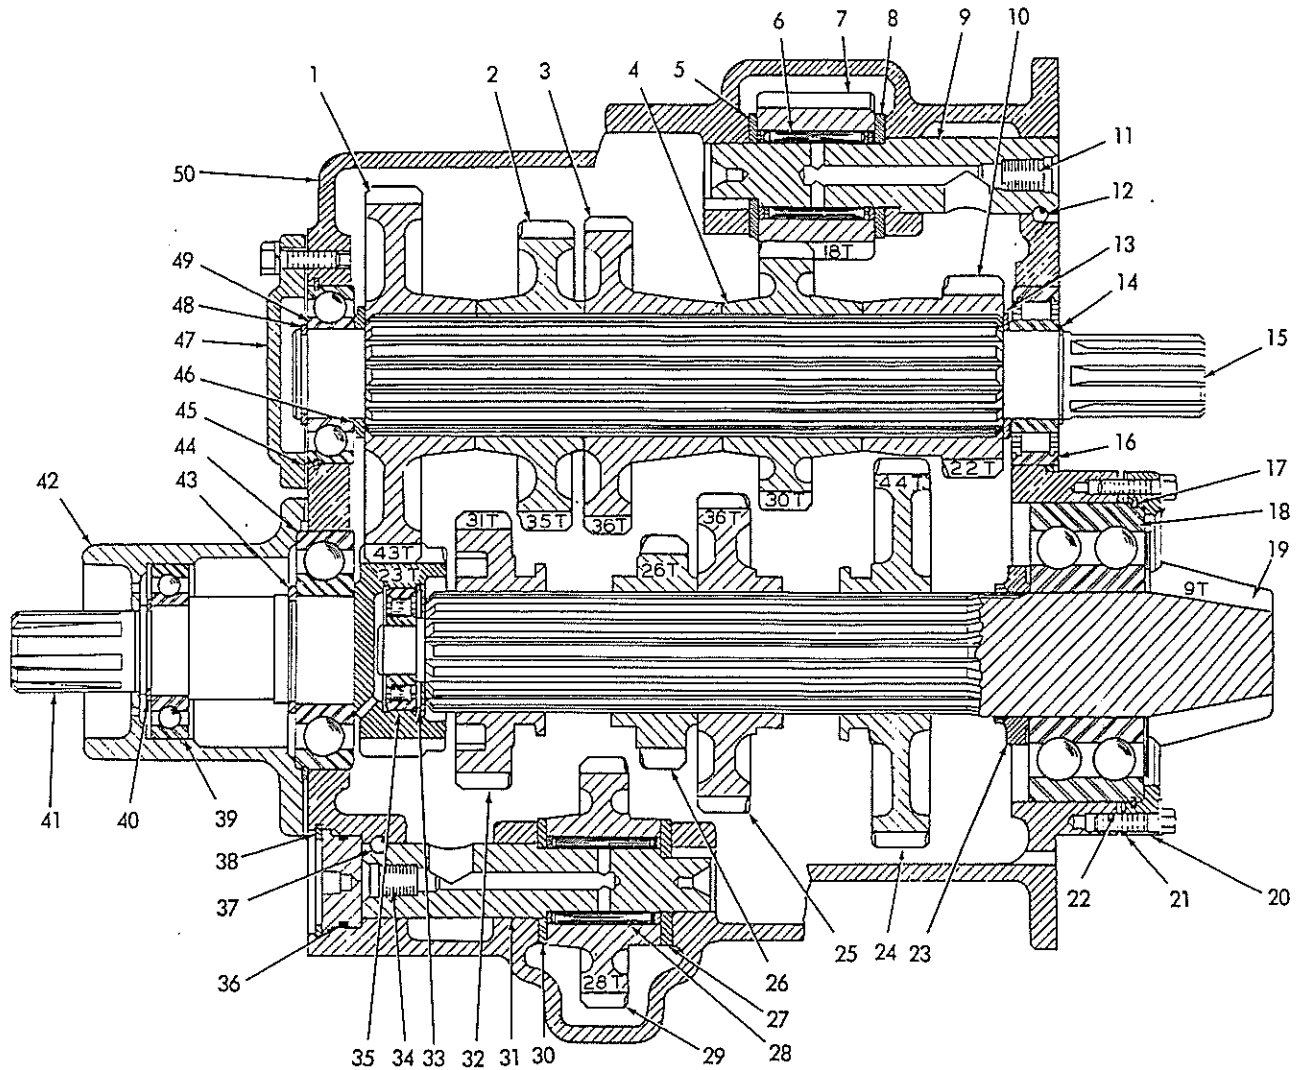

Fig. 2 Two Speed Reverse Transmission (Standard HD6G - Optional HD6A, B, and E)
17. HD6G (also other models with optional two speed reverse), remove snap ring Fig. 8 (2), high speed reverse gear shaft hole plug (1), and shaft plug Fig. 2 (34). Use slide hammer puller to pull shaft from case; catch steel locking ball, Fig. 2 (37) as shaft is removed. Remove high speed reverse gear, bearing, and thrust washers from transmission.